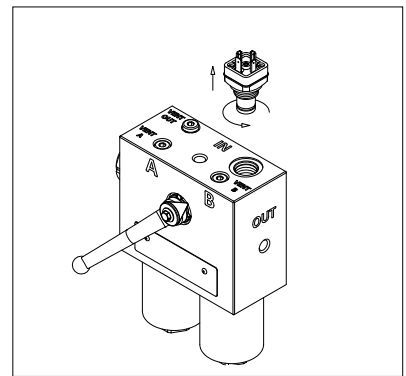

fig. 16
- (Fig. 16) Unscrew the indicator body